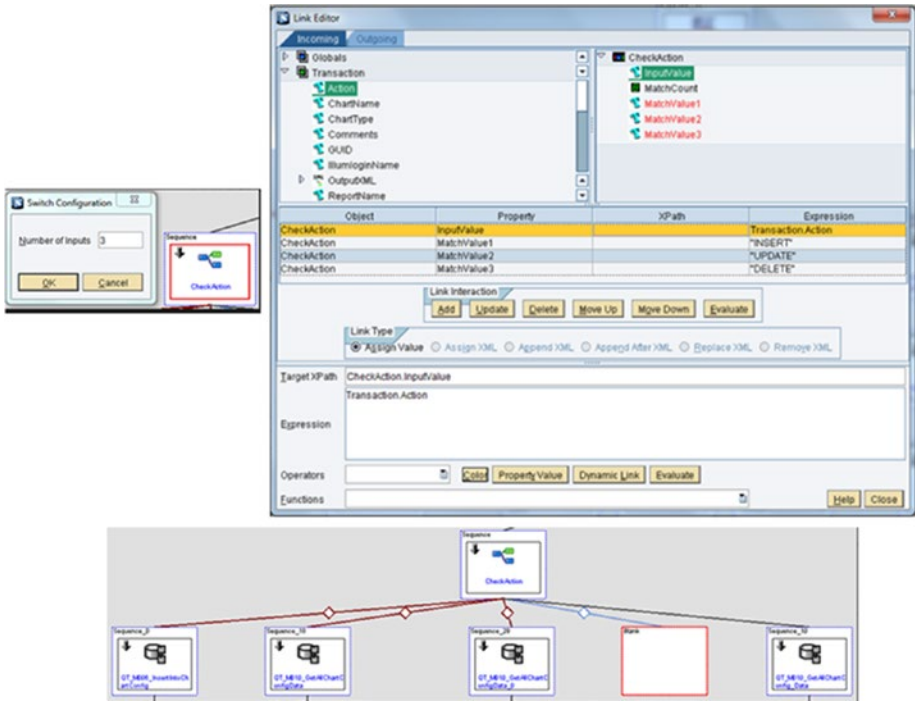

Figure 6-42. Switch action block
- **Switch action block:** This is used to control execution flows in BLS transactions based on a variable, which can be a property of another action block, transaction properties, and local properties. See Figure 6-42.